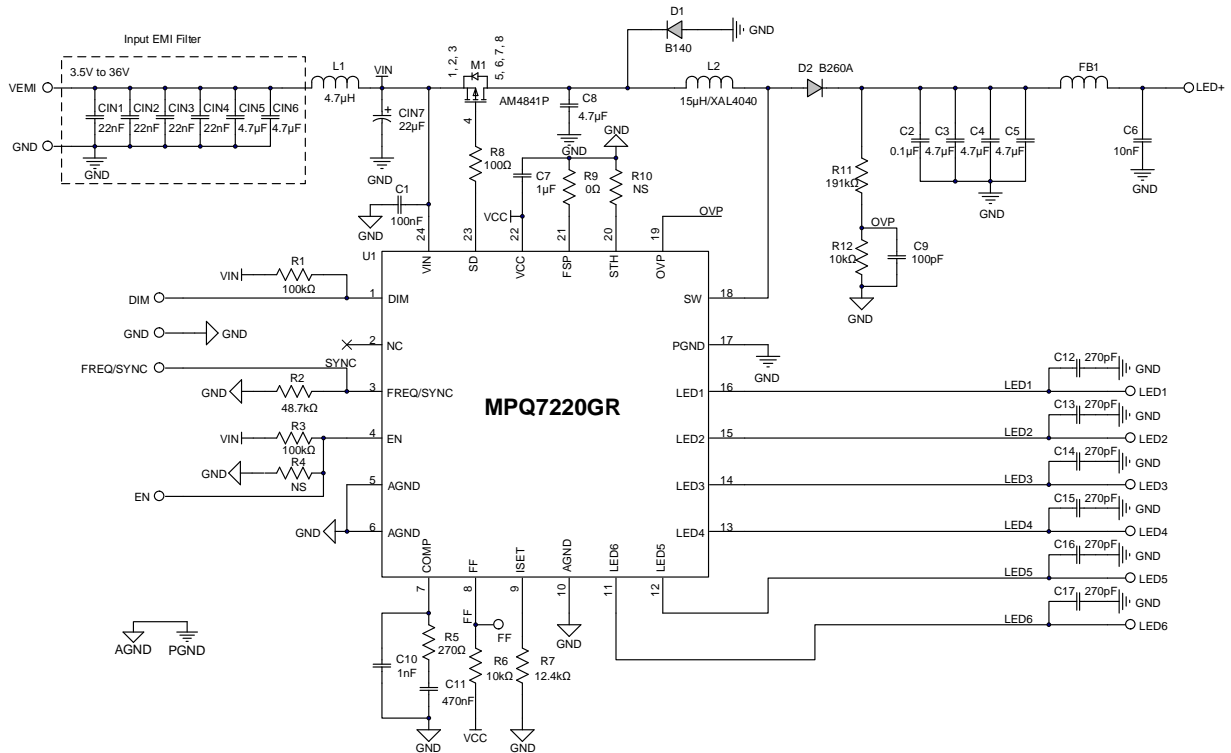

Figure 6: Typical Application Circuit for the QFN-24 Package with EMI Filters ($I_{SET} = 100\text{mA}$, $f_{sw} = 450\text{kHz}$)
10) The recommended PCB layout is based on Figure 6 on page 27.
Added Figure 6 and Figure 8; updated figure titles	27–28